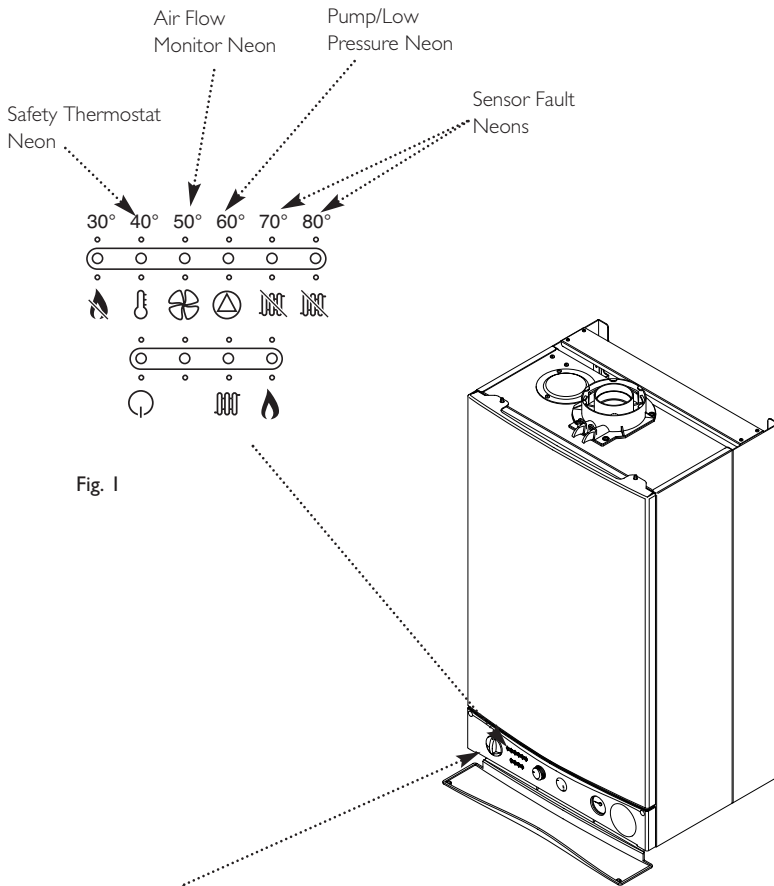

Fig. 1
2. If the () neon illuminates it indicates that the flue or flue terminal is blocked or obstructed in some way, or that there is an internal fault. If there is no external blockage of the flue terminal that can be easily removed contact your Installer or Service Engineer (Fig. 1).
1. The neon () will illuminate if the circulating pump is faulty or the system pressure drops below the minimum requirement (Fig. 1).
1. When either of the the () neons is illuminated a fault on one of the temperature sensors is indicated (Fig. 1). Contact your Installer or Service Engineer.
1. Your Main System HE is fitted with an additional safety devices, which shut down the boiler in the event of the system, boiler or flue overheating. The safety thermostat neon () will light in this instance (Fig. 1).